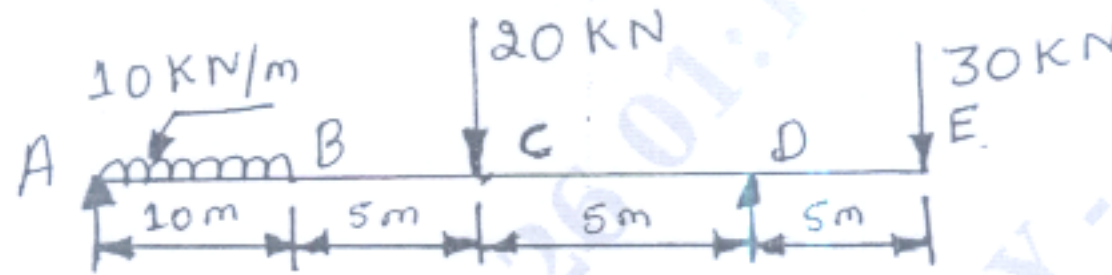

Fig.Q6(b)
b. Draw the SFD and BMD for the overhanging beam shown in Fig.Q6(b). 14 L3 CO3